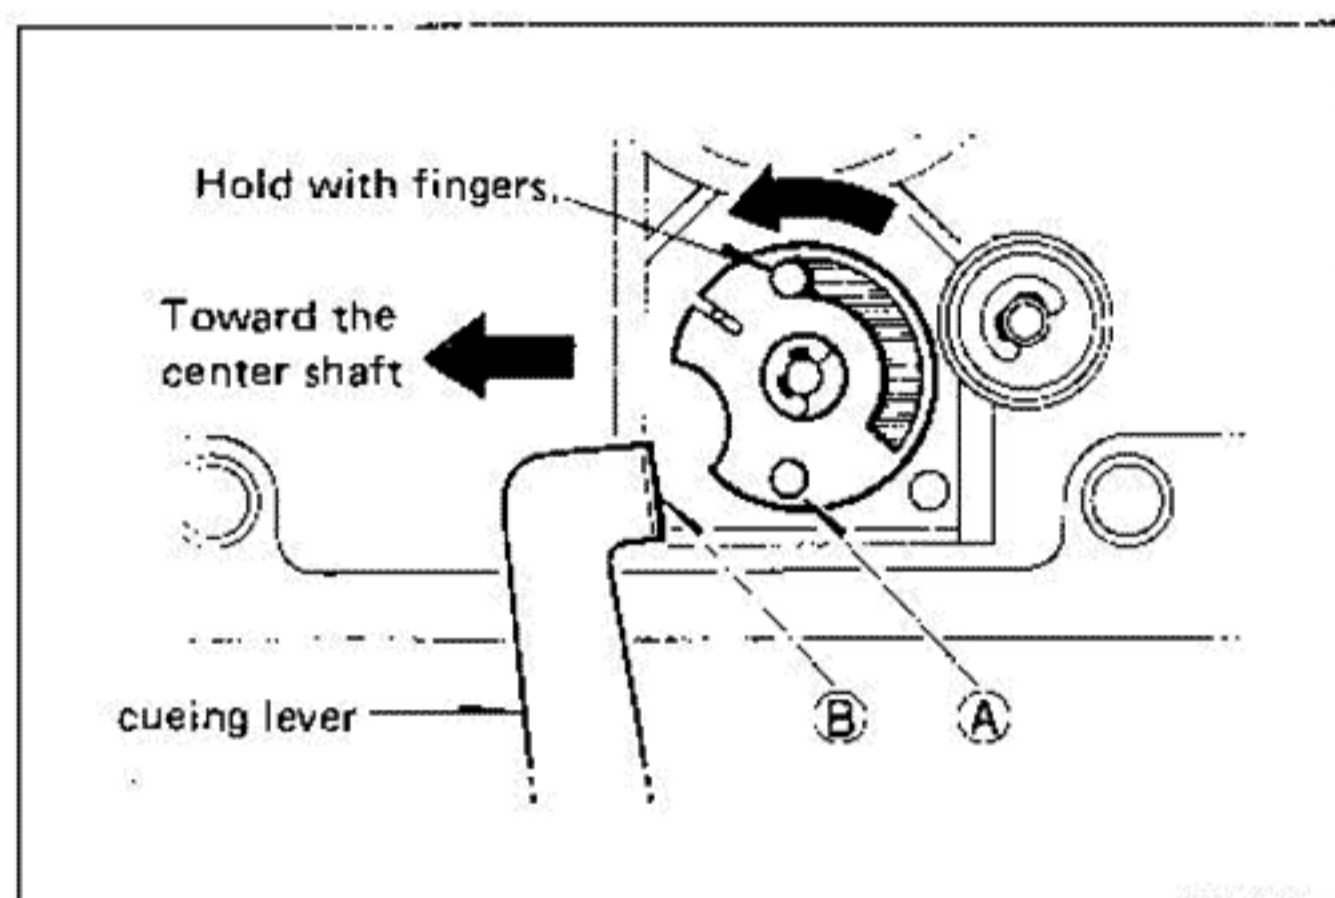

Fig. 7
e. Before installing the tonearm unit, move the cueing lever toward the center shaft as shown in Fig. 7 and turn pin A counterclockwise so as to bring the lifter up.